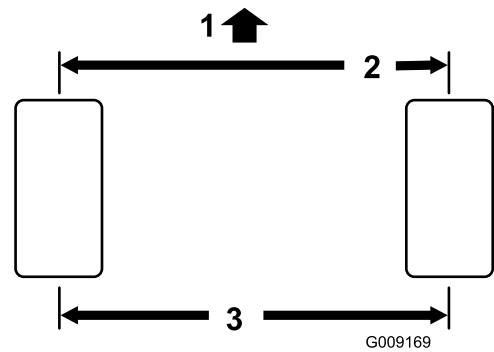

Figure 69
1. Measure the center-to-center distance (at axle height) at the front and rear of the steering tires (Figure 69).